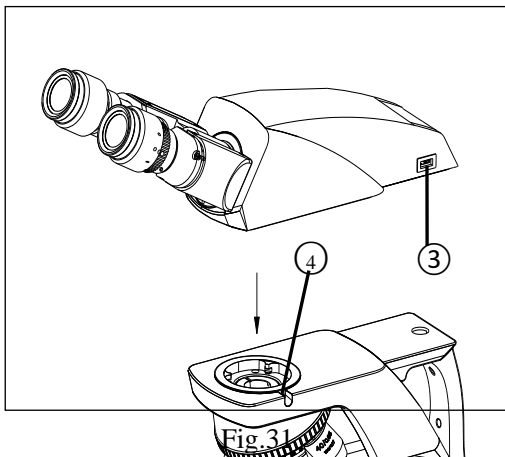

Fig.31
- 2.The digital viewing head ① is an HDMI interface, and the other end can be connected to a computer or mobile phone;② Connect the network cable, ③ is the mouse interface.
- 3.Install the digital viewing head into the circular dovetail of the microscope along the path shown in FIG. 31. Tighten the screw in ④ position to fix the digital viewing head.